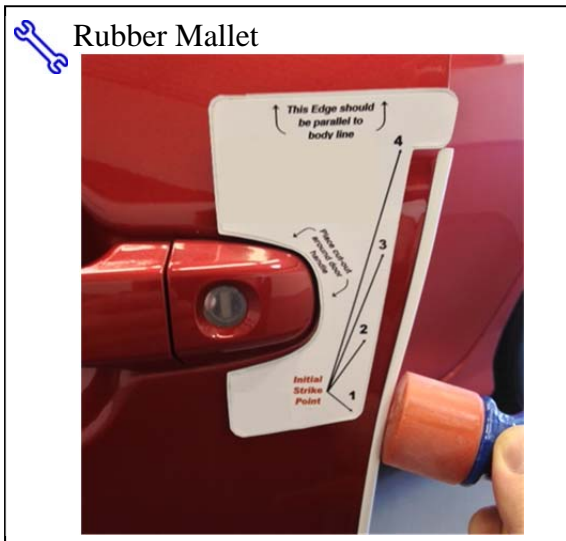

Fig. 1-6
(4) Mallet blows need to be delivered squarely (broad face contact opposed to point contact) to the spine of the molding, and perpendicular to the door edge as shown. While holding DEG in proper alignment with one hand, use **soft side of the rubber mallet** to begin tapping the channel onto the door edge, starting at Striking Point #1 on the template (~3” inches below the top of the DEG). Ensure the channel is fully engaged onto the door edge before proceeding to the next step (Fig. 1-6).